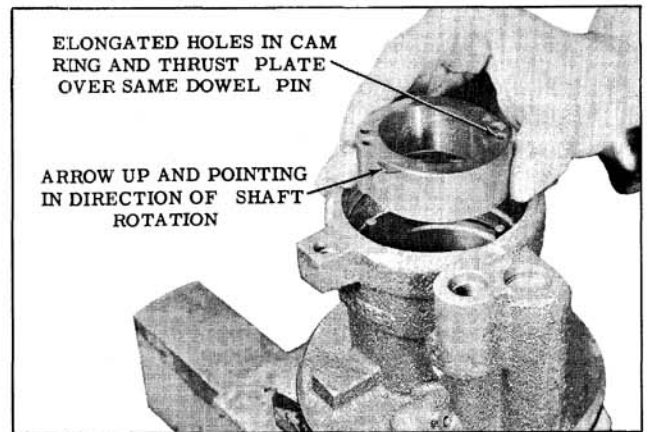

Fig. 8-32 Installing Cam Ring
- NOTE: One of the dowel pin holes is slightly elongated in both the thrust plate and cam ring. These holes should be at the same dowel pin to minimize the possibility of pump noise. (Fig. 8-32)
9. Install the cam ring with the small holes over the dowel pins SO THAT THE ARROW ON THE OUTER SURFACE IS NEAR THE TOP OF THE CAM RING. (Fig. 8-32)